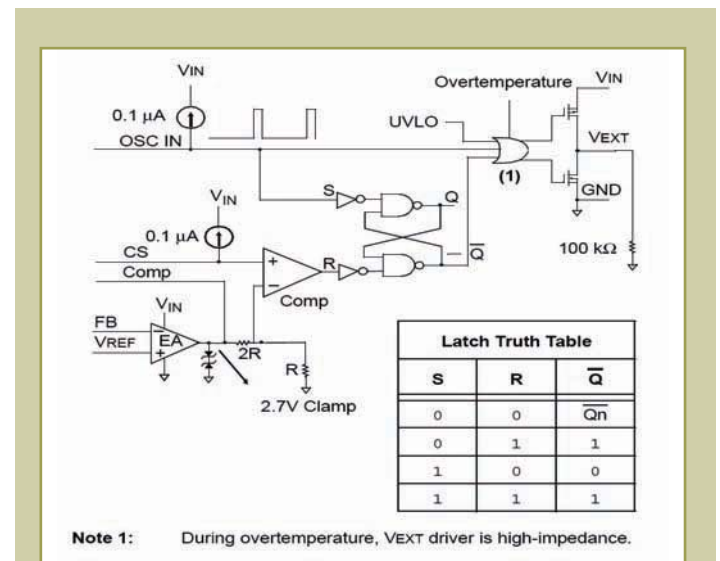

Figure 4: MCP1630 high-speed PWM
The block diagram for the MCP1630 high-speed PWM driver is shown in Figure 4. One of the features of the MCP1630 is the ability to perform current limiting. As shown in the bottom left corner of the diagram, the output of the Error Amplifier (EA) is limited by a 2.7V clamp. Therefore, regardless of the actual error, the input to the negative terminal of the comparator (labeled Comp) is limited to 2.7V÷3 or 0.9V.